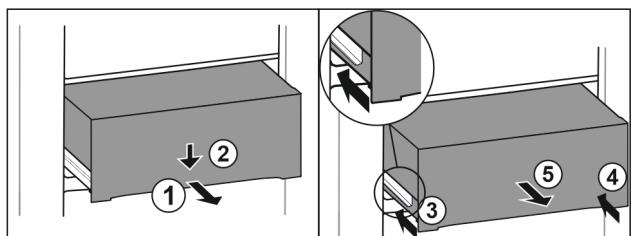

Fig. 131
- Pull out drawer half-way. Fig. 131 (1)
- Push the drawer down at the front. Fig. 131 (2)
- Push the left rail in by about 2 cm. Fig. 131 (3)
- Push the right rail in by about 2 cm. Fig. 131 (4)
- Remove drawer to the front. Fig. 131 (5)